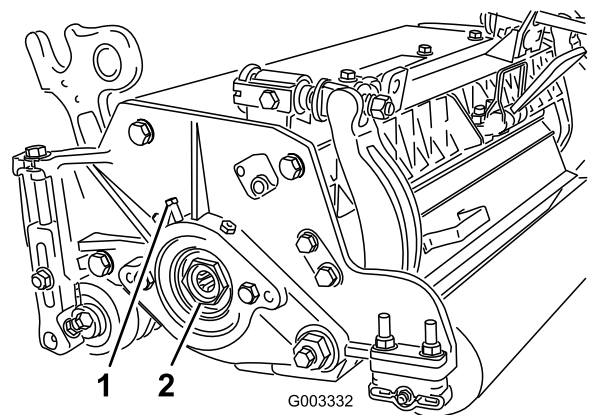

Figure 24
- A. Loosen external set screw securing bearing adjusting nut to bearing housing located on the left side of the cutting unit (Figure 24).